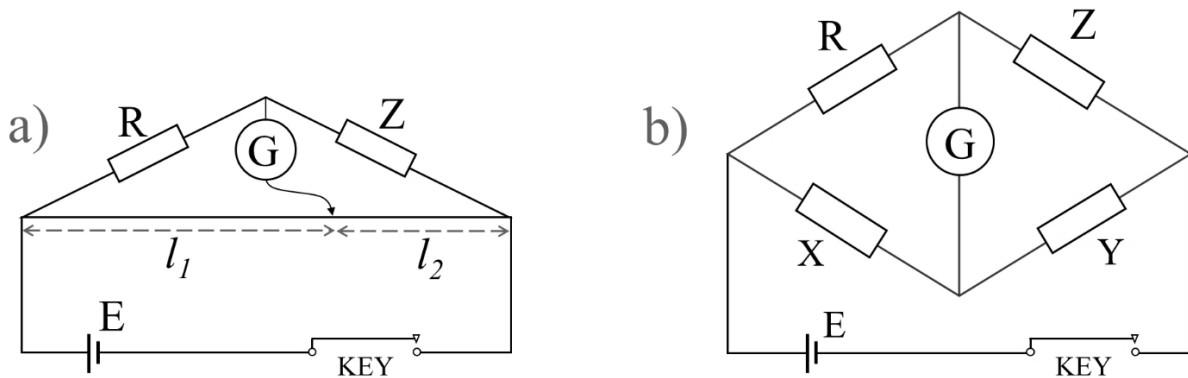

Fig. 32.1. **a)** Meter bridge; **b)** Wheatstone bridge
1. Connect the circuit as shown in Fig. 32.1.